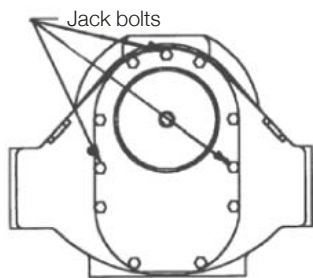

Figure 6A
- Remove the pointer (16) and accessory drive (13) from the actuator by removing the screw (14) from inside the yoke (2) bore.
- Remove all cover bolts (19). Three of these bolts occupy "jack bolts" holes and are threaded into the cover (18). Screw three long cover bolts into these "jack bolt" holes and turn them sequentially 1/2 turn at a time to pry the cover off. See figure 6A.
- A. Install yoke seals (48) using o-ring lube and yoke bearings (5) using WD-40 into the cover (18) and housing (1).
- B. Inspect the housing upper and lower vent passages and clear any blockage. Install new vent valves (22).
- C. Lubricate the bearing surfaces of the yoke (2) with WD-40 and install the yoke (2) in the housing (1). Install the yoke with the marking and the pointer drive bar visible through the cover hole.
- D. Install the piston rod bushings (7) and the piston rod (4).
- E. Install the lower retaining ring (11) on the thrust pin (9) and lubricate the pin with Whitmore grease. Lubricate the slide blocks (10) with Whitmore grease inside and out and position them in the yoke (2) slots. Insert the thrust pin (9) through the thrust pin access hole (Figure 6A) and slide it through the lower slide block (10), piston rod (4), and upper slide block (10). Install the upper retaining ring (11) on the thrust pin (9).
- F. Place joint compound on the sealing surface of the cover (18), install the cover on the housing (1), and torque the cover bolts (19) to 41 Nm. Install the short cover bolts (19) into the jack bolt holes of the cover (18).